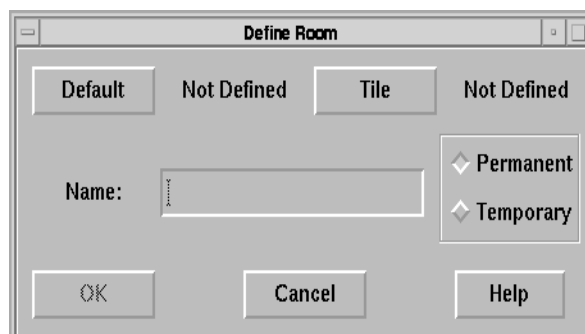

Figure 7.11.1-1. Room Builder Window
4. **Open the Room Builder window (see Figure 7.11.1-1).**